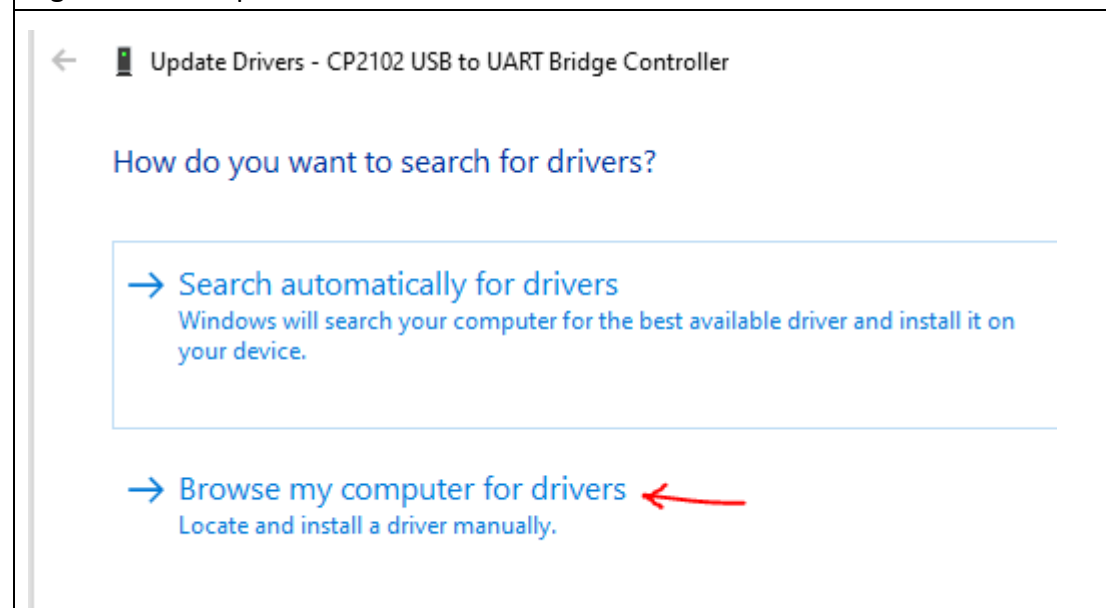

Figure-1.16. Search driver from your computer
17. Select 'Browse my computer for drivers', because we have got the relative files in procedure-15 (Figure-1.16).